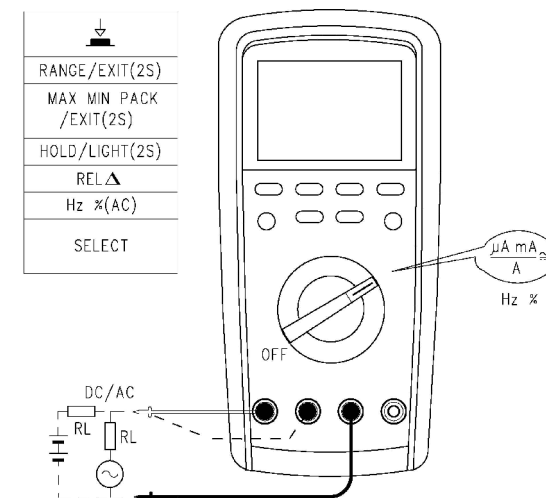

Figure 10
**8. Measuring AC/DC (see Figure 10)**
\* Long press SELECT in mA function range, to access % (4-20mA) measuring function, and the percentile calibration of measured current will be displayed: 4mA for 0%; 20 mA for 100% (applicable to UT171B/C only), see Figure 10.